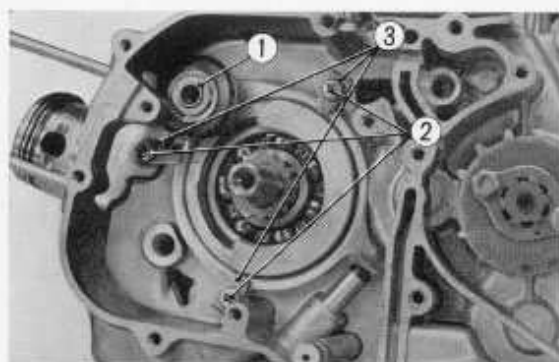

Fig. 3.60 Removing the cam chain tensioner
- ① Tensioner cushion rubber
- ② Tensioner push rod
- ③ Tensioner spring
- ④ 14 mm sealing washer
- ⑤ 14 mm sealing plug
4. Remove the cam chain tensioner ① by removing the three 5 mm screws ② attaching the cam chain tensioner setting plate ③ to the tensioner. (Fig. 3.60)